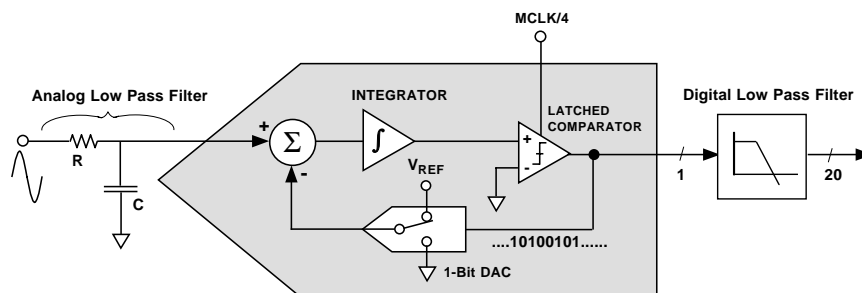
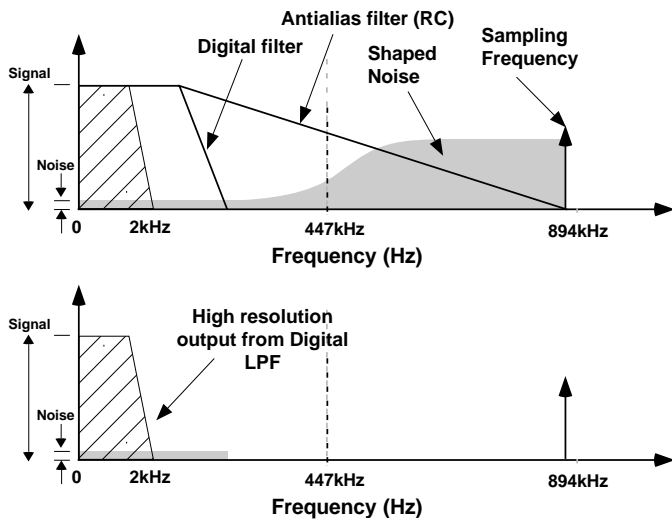
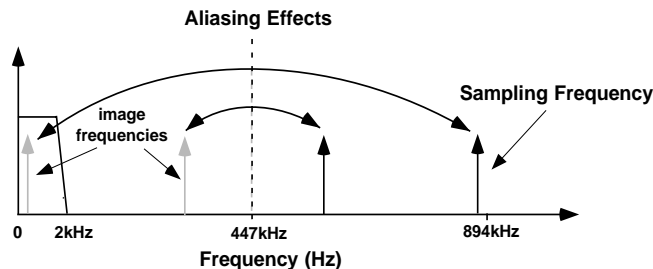

Figure 18— First Order Sigma-Delta ( $\Sigma$ - $\Delta$ ) ADC
Figure 19—Noise reduction due to Oversampling & Noise shaping in the analog modulator
Figure 20—ADC and signal processing in Channel 1
The analog-to-digital conversion in the AD7756 is carried out using two second order sigma-delta ADCs. The block diagram in Figure 18 shows a first order (for simplicity) sigma-delta ADC. The converter is made up of two parts, first the sigma-delta modulator and secondly the digital low pass filter.
The sigma-delta converter uses two techniques to achieve high resolution from what is essentially a 1-bit conversion technique. The first is over-sampling. By over sampling we mean that the signal is sampled at a rate (frequency) which is many times higher than the bandwidth of interest. For example the sampling rate in the AD7756 is CLKIN/4 (894kHz) and the band of interest is 40Hz to 2kHz. Oversampling has the effect of spreading the quantization noise (noise due to sampling) over a wider bandwidth. With the noise spread more thinly over a wider bandwidth, the quantization noise in the band of interest is lowered—see Figure 19. However oversampling alone is not an efficient enough method to improve the signal to noise ratio (SNR) in the band of interest. For example, an oversampling ratio of 4 is required just to increase the SNR by only 6dB (1-Bit). To keep the oversampling ratio at a reasonable level, it is possible to shape the quantization noise so that the majority of the noise lies at the higher frequencies. This is what happens in the sigma-delta modulator, the noise is shaped by the integrator which has a high pass type response for the quantization noise. The result is that most of the noise is at the higher frequencies where it can be removed by the digital low pass filter. This noise shaping is also shown in Figure 19.
Figure 18 also shows an analog low pass filter (RC) on the input to the modulator. This filter is present to prevent aliasing. Aliasing is an artifact of all sampled systems. Basically it means that frequency components in the input signal to the ADC which are higher than half the sampling rate of the ADC will appear in the sampled signal at a frequency below half the sampling rate. Figure 20 illustrates the effect, frequency components (arrows shown in black) above half the sampling frequency (also known as the Nyquist frequency, i.e., 447kHz) get imaged or folded back down below 447kHz (arrows shown in grey). This will happen with all ADCs no matter what the architecture. In the example shown it can be seen that only frequencies near the sampling frequency, i.e., 894kHz, will move into the band of interest for metering, i.e., 40Hz - 2kHz. This fact will allow us to use a very simple LPF (Low Pass Filter) to attenuate these high frequencies (near 900kHz) and so prevent distortion in the band of interest. A simple RC filter (single pole) with a corner frequency of 10kHz will produce an attenuation of approximately 40dBs at 894kHz—see Figure 19. This is sufficient to eliminate the effects of aliasing.